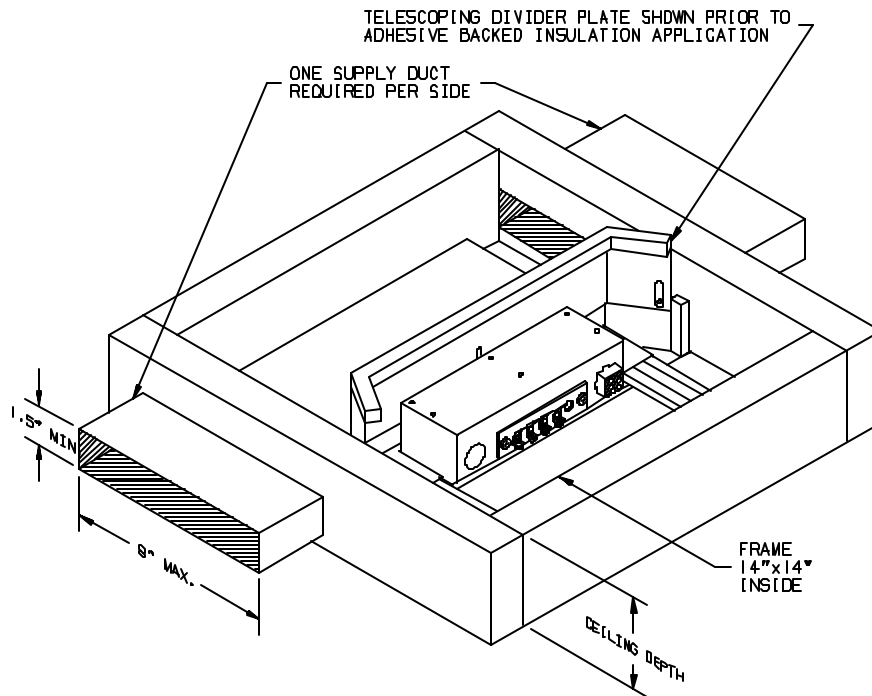

FIGURE 2
2. Position ceiling assembly into the ceiling opening. For proper orientation of the ceiling assembly, reference Figure 2.